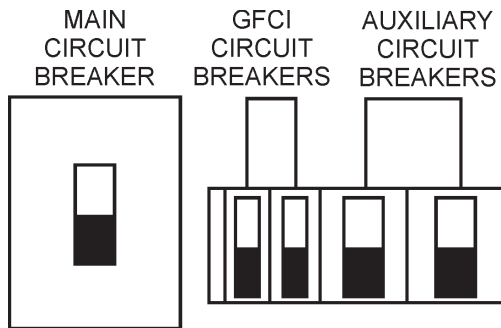

Figure 39. Main, Aux. and GFCI Circuit Breakers (OFF)
1. Place the **main, G.F.C.I.**, and **aux.** circuit breakers (Figure 39) in the **OFF** position prior to starting the engine.